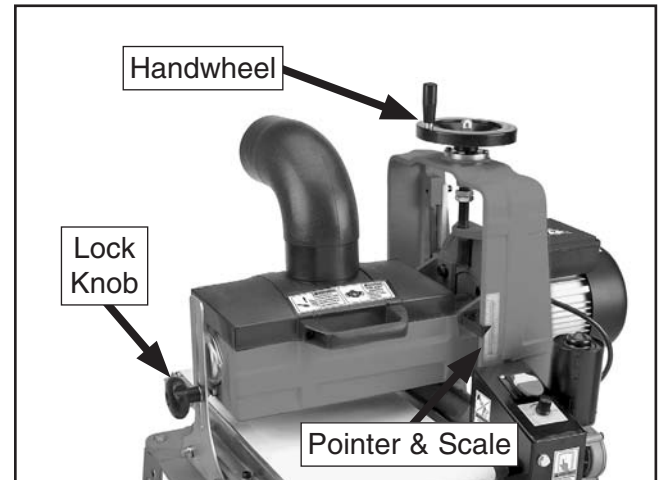

Figure 24. Elevation controls.
1. Loosen the elevation lock knob (see Figure 24).